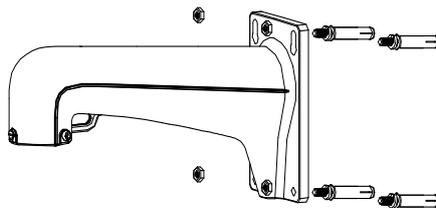

Figure 3-15 Secure the Bracket
- The bracket in Figure 3-15 is the recommended bracket for this series of speed dome, and a pendant adapter is required if any other bracket is selected.